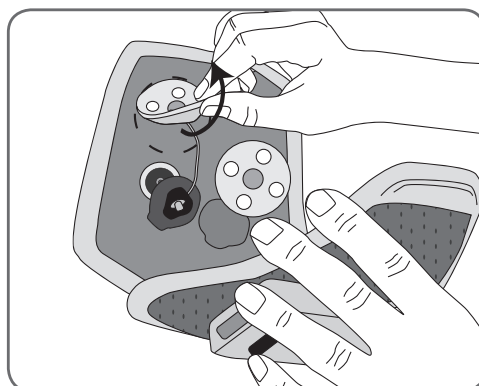

Figure 8-23: Removing the L300 hydrogel electrode bases.
4. Remove the L300 hydrogel electrode bases from the L300 FS Cuff liner. See Figure 8-23.